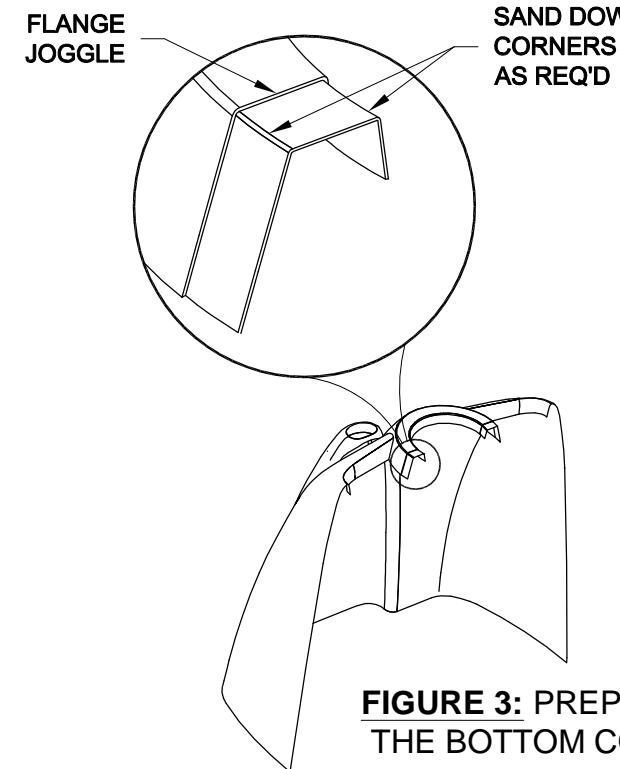
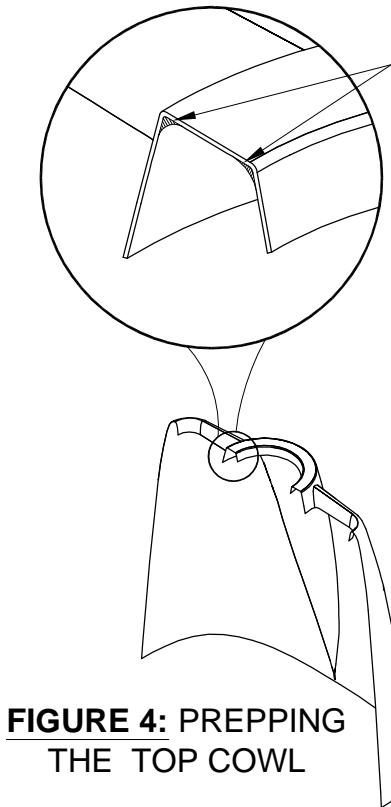
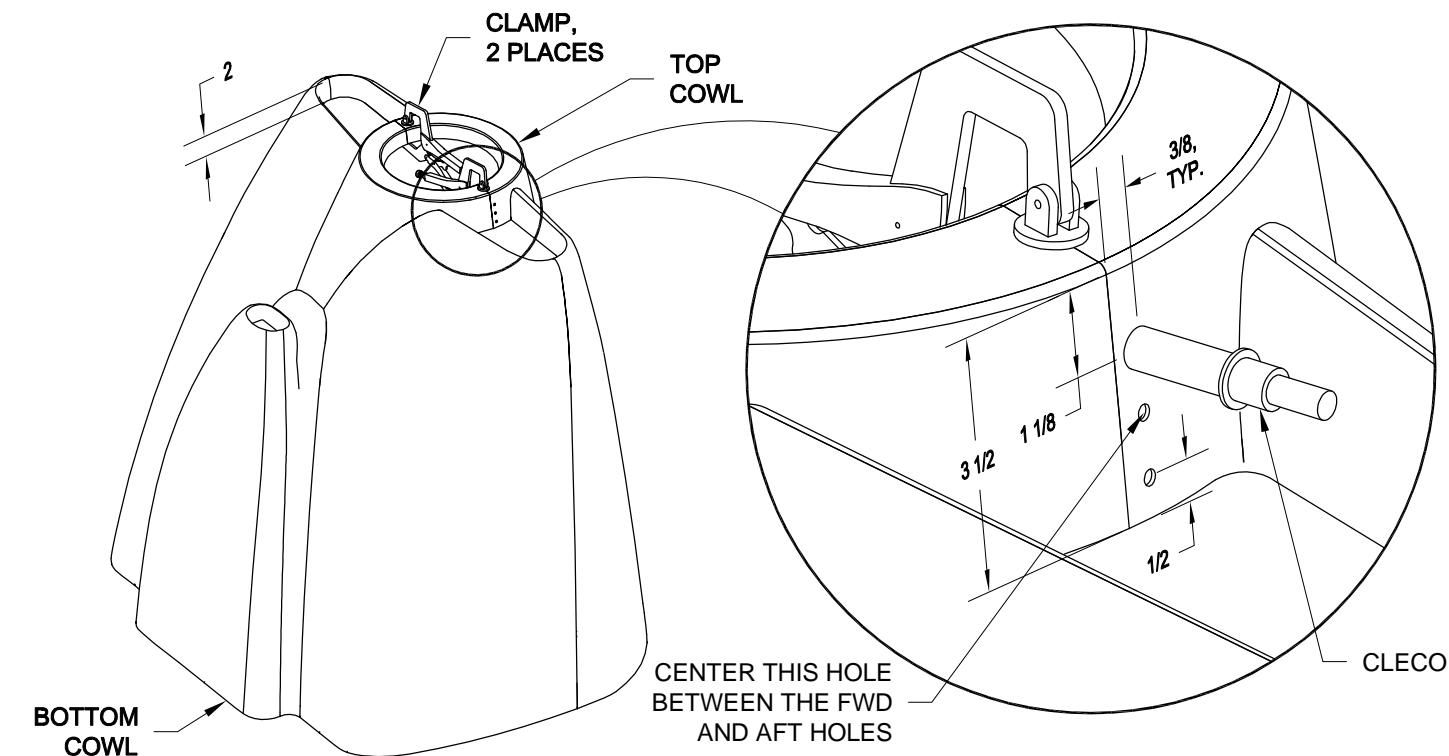

FIGURE 3: PREPPING THE BOTTOM COVL
FIGURE 4: PREPPING THE TOP COVL
FIGURE 5: FASTENER LOCATIONS
Step 5: Clean any excess resin that may have cured along the flange joggle on the bottom cowl. Remove abnormal glass and resin buildup from the inside surface of the top cowl (see Figure 4). Sand down the corners of the flange on the bottom cowl (see Figure 3) until the top cowl can fit into place (see Figure 5).
Step 6: Fit the top and bottom cowl halves together as shown in Figure 5. Using the dimensions in Figure 5, evenly trim the aft edge of the air inlets.
Step 7: Clamp the top and bottom cowls together as shown in Figure 5. Of the three hole pattern shown in Figure 5, mark the location of the **forward** most hole on both sides of the top cowl spinner opening. Drill #40 then cleco the forward most hole only.